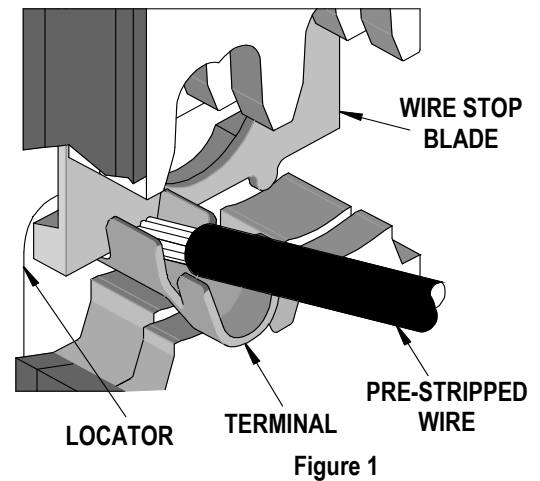

Figure 1
4. Slide the pre-stripped wire into the wire stop blade. See Figure 1. Be sure to hold the wire in place until the terminal is fully crimped. See Figure 2.